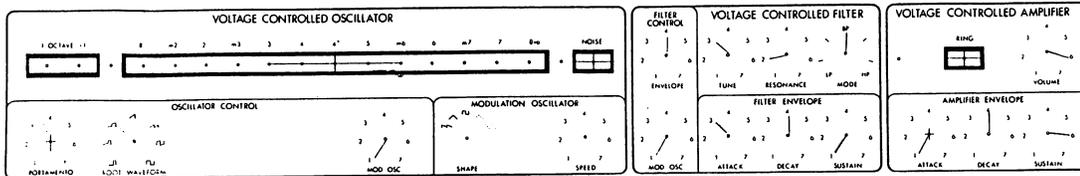

Fig. 9 Rockford Files
**A PRACTICE TRANSLATION.** Before trying to program one of your own settings, set up your SynKey as shown in Fig. 9. Translate this setting to a blank program card. Compare what you have punched to the card that came with your instrument. The newly punched card and prepunched card should be identical.